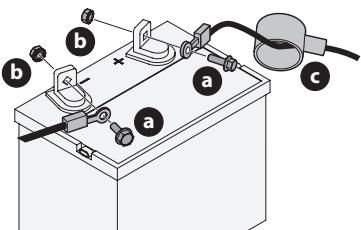

Figure 18
1. If present, remove the plastic cover from the positive battery terminal. Attach the red connector to the positive battery terminal [+] using the bolt (a) and hex nut (b) (Figure 18).
2. Position the red rubber boot (c) over the positive battery terminal [+] to help protect it from corrosion (Figure 18).
3. If present, remove the plastic cover from the negative battery terminal and attach the black cable to the negative battery terminal [-] with the bolt (a) and hex nut (b) (Figure 18).